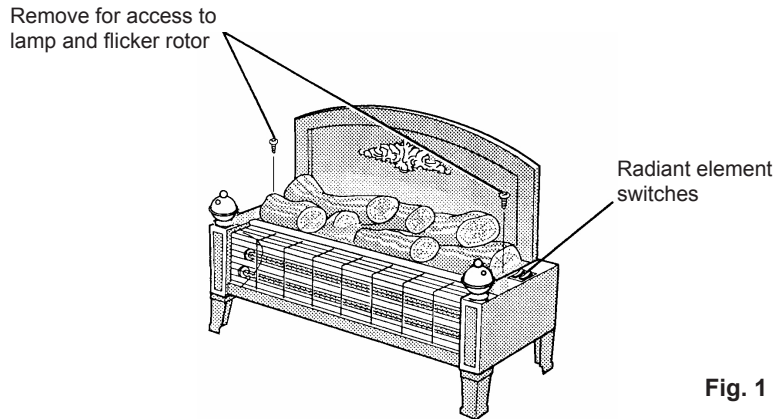

Fig. 1
Before switching on remove the fuel effect (two screws - see Fig. 1) and check that the lamp and flicker rotor are positioned correctly.
Remove the fuel effect (two screws) - see Fig. 1 and replace the defective lamp with a 60 or 40 watt, 220/250 volt, 2 pin bayonet cap (BC) fire glow fuel effect lamp. Ensure that the flicker rotor spins freely, then reassemble.